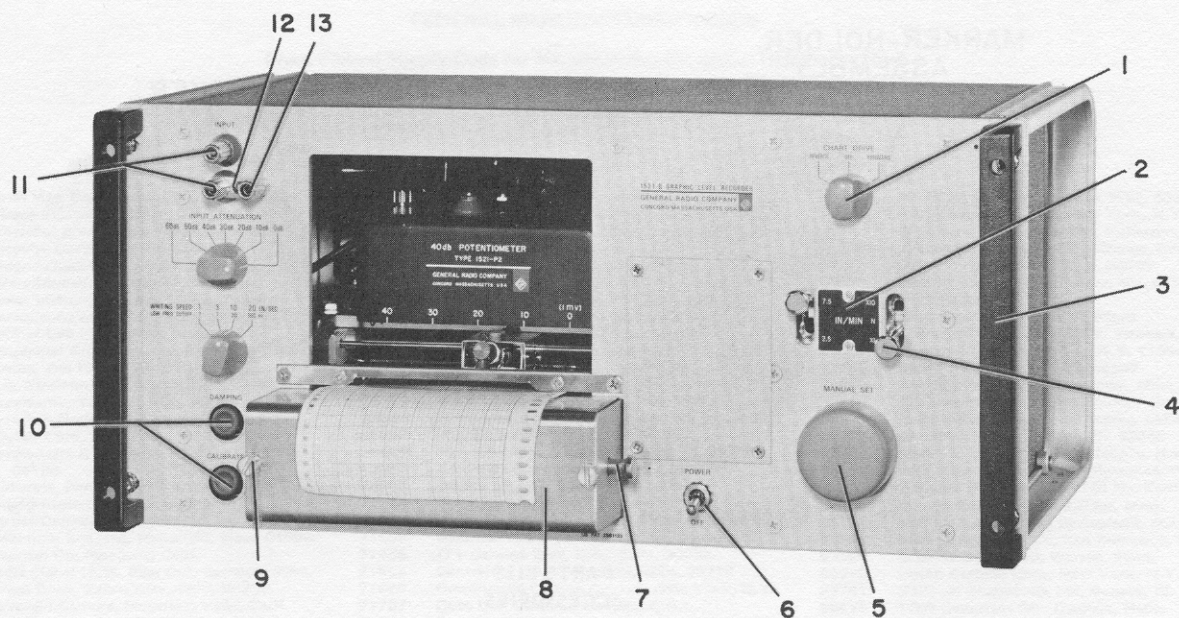

Figure 6.5. Type 1521-B mechanical replacement parts (refer to Parts List).
**REPLACEMENT PARTS, Mechanical (see Figure 6.5)**